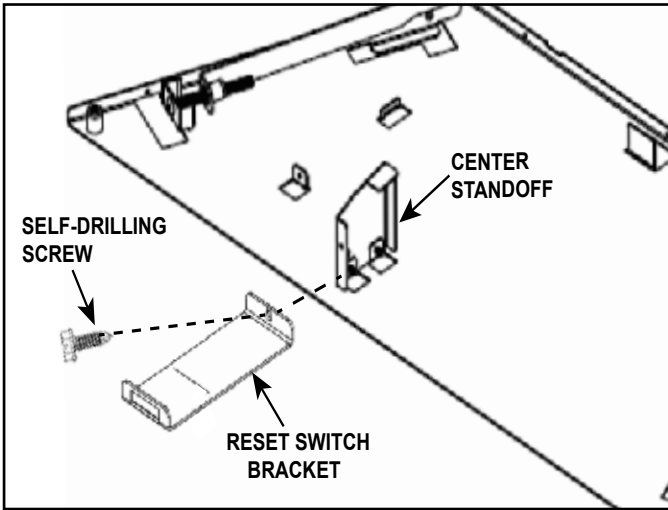
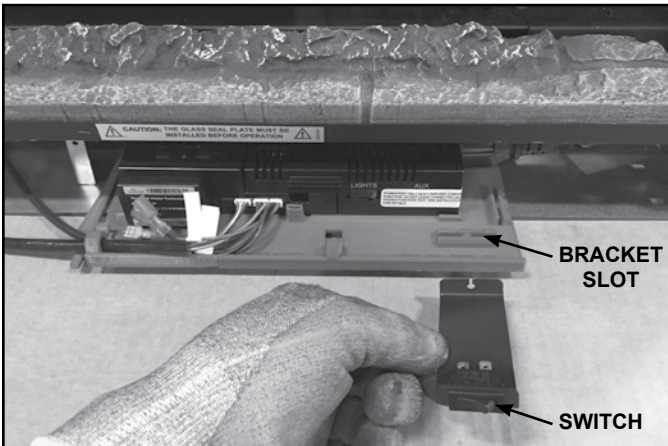

Figure 1 PROVIDENT/JASPER Bracket Location
Figure 2
1. Install the rocker switch into the rocker switch bracket. See Figure 2.
2. For PROVIDENT/JASPER inserts: Use the self drilling screw and attach the rocker switch bracket to the center standoff. The bracket should sit flat on the bottom of the unit. Center the hole in the bracket on the center of the standoff. See Figure 1. Move onto step 4. For all other metal inserts: Slide the component tray forward to access the rocker switch bracket slot. Install the rocker switch into the bracket. See Figure 2.